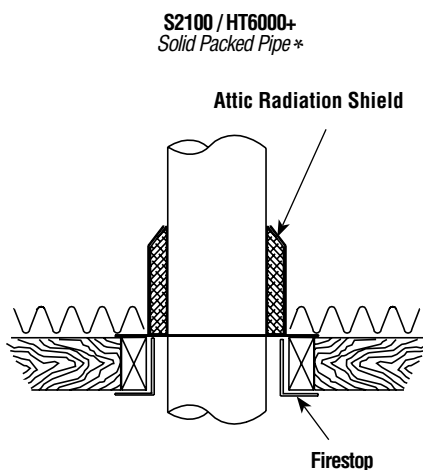

Figure 22a
2. From below, install a firestop in each ceiling/floor separation through which the chimney will pass. At the attic level, install an attic radiation shield from above (**Figures 22a and 22b**).
3. Use another elbow to turn the chimney vertically. Secure the elbow, using three (3) 1/2" (12 mm) screws (provided with the elbow).
5. From below, install a firestop (See **Figure 22a**).